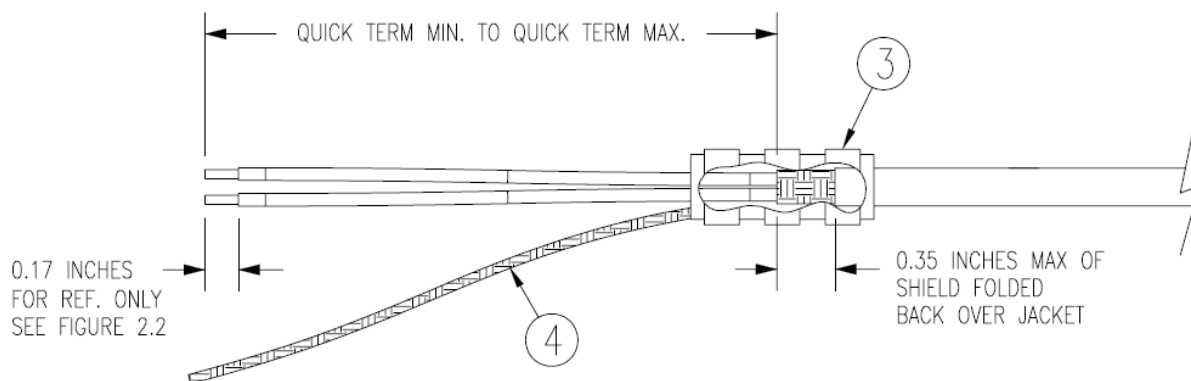

Figure B-9. Method B.1 (Quick Term) for Shield Termination
If desired, the drain wire termination (item 3) and the floating shield termination (item 5) can be effectively combined into a “Quick Term”. This method eliminates the float in the cable insulation and moves the placement of the window which was described by the dimensions “Window Min” and “Window Max” from Method A. This technique is depicted in Figure B-9.
Connect a Flat Braid (item 4) to the folded back shield of the prepared cable assembly. The flat braid should go out the front of the termination towards the connector. It is not permitted to exit the rear of the termination and loop back towards the connector. (Figure B-9). Make this connection using an approved shield termination technique.